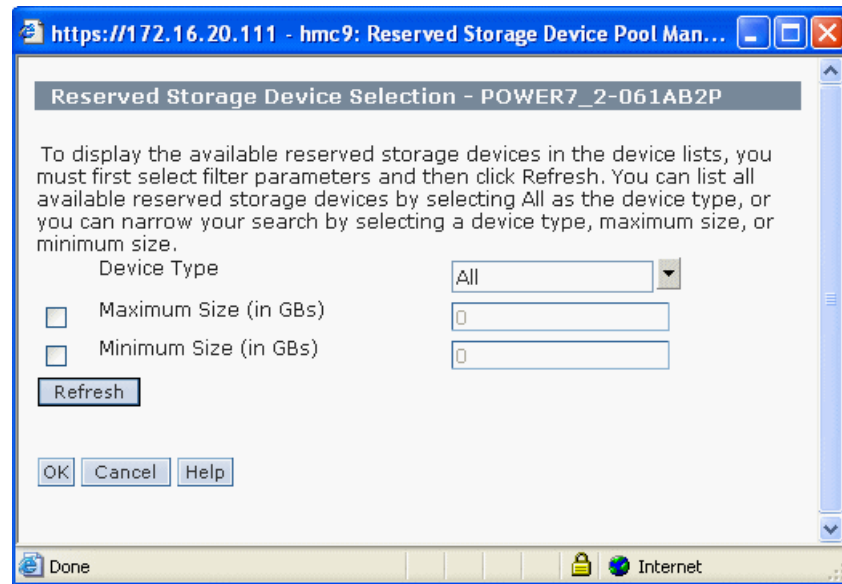

Figure 17-23 Reserved storage device list selection
3. Select the device type, optionally select the minimum and maximum device size, as shown in Figure 17-23, then click **Refresh** to display the list of available devices.